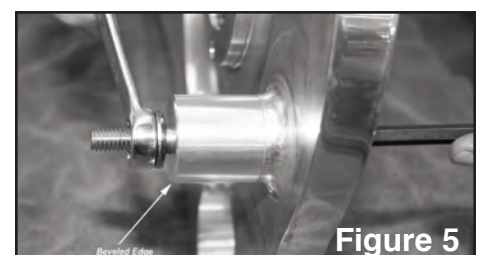

Figure 5
**NOTE: The round spacers have a beveled edge on one end and a crisp edge on the other end. The beveled end goes toward the trans and the crisp edge goes up against the motorplate. (See figure 5).**